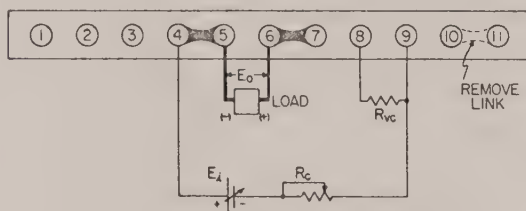

FIG. 3-9 CONNECTIONS FOR VOLTAGE PROGRAMMING
3-35 Procedure (Refer to Fig. 3-9)
- Connect components as shown in Fig. 3-9, disconnect link between terminals (10) and (11) on the barrier strip.
With the calculated components connected as shown in Fig. 3-9, the output voltage E_o varies from 0 to 30V DC as E_i is varied from 0 to 10 volts.